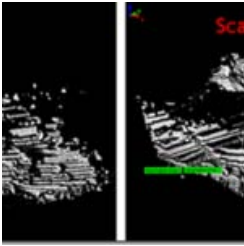

Figure 1: Identifying common tie points between two scans
3. Rotate both views so that they are oriented correctly with respect to one another (see Figure 1 below). This is important for identifying common points between the two scans.